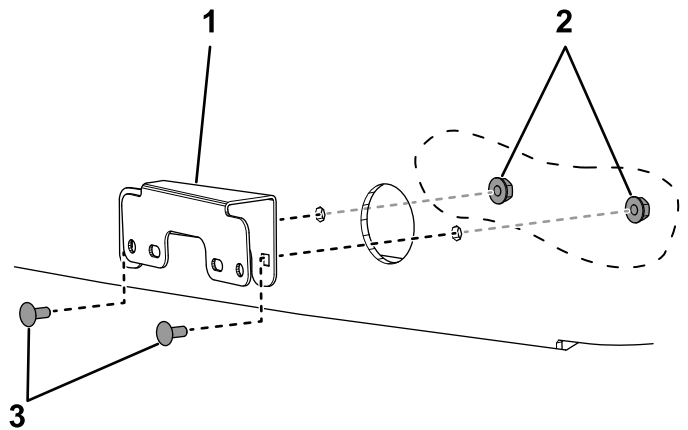

Figure 23
3. Install the 2 turn signal brackets to the hood using 4 carriage bolts (#10 x 1/2 inch) and 4 locknuts (#10) (Figure 23).